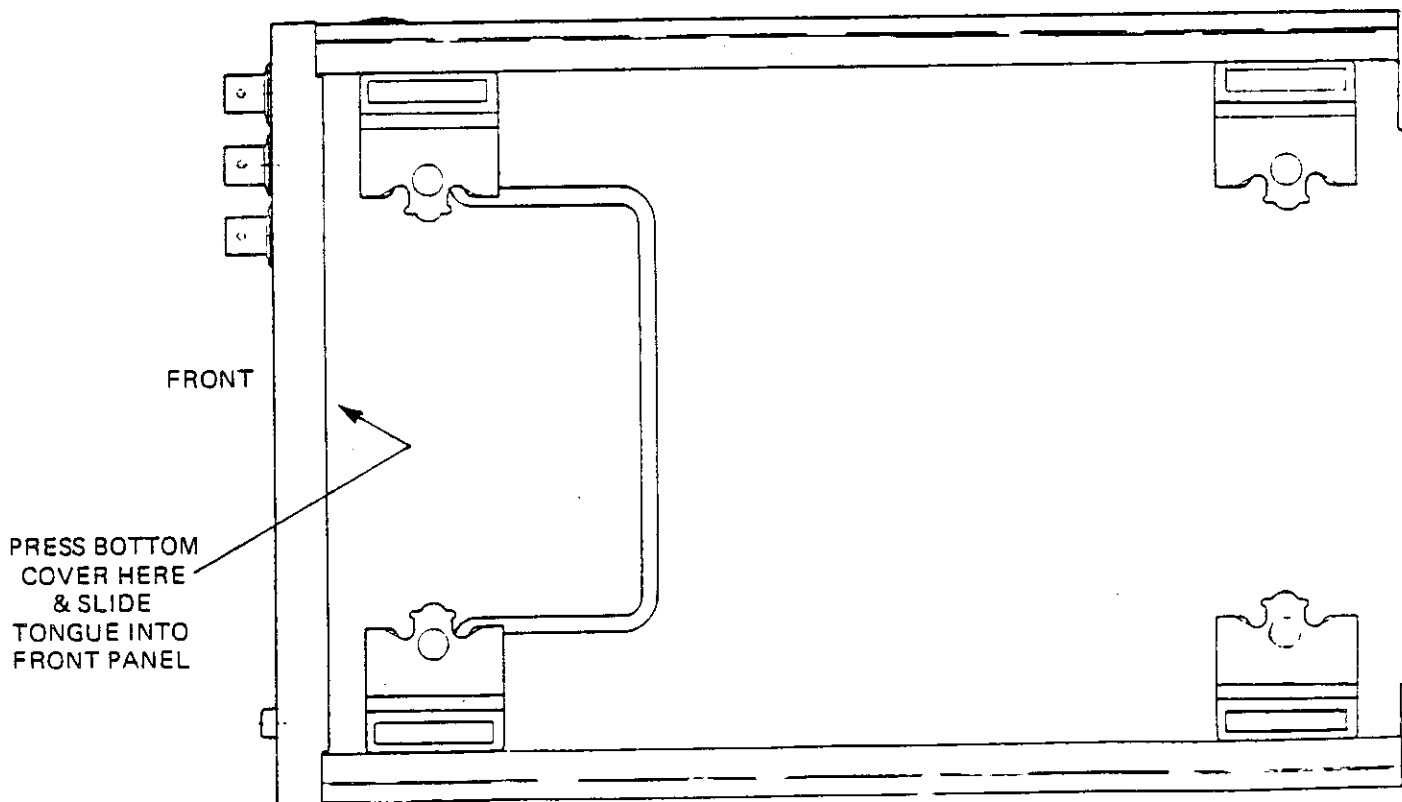
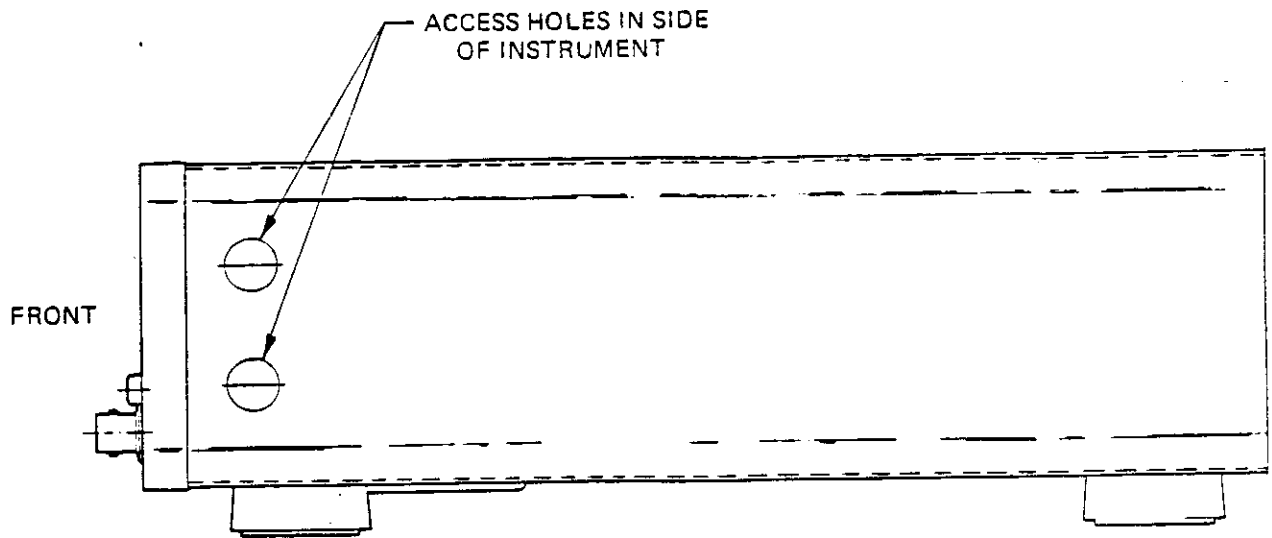
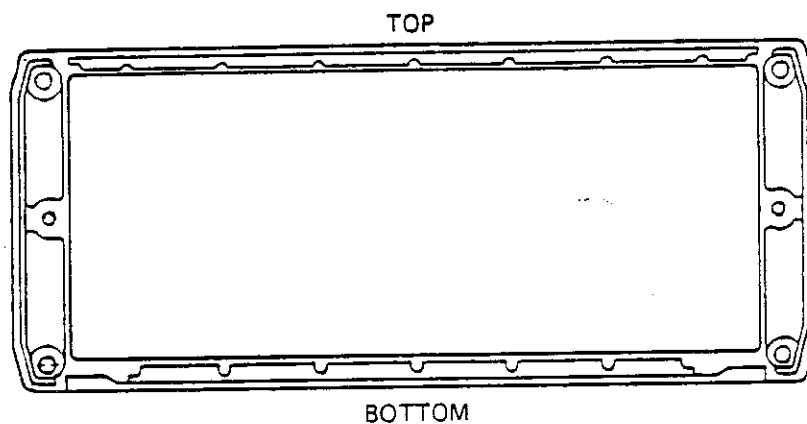

Figure 6.2 - Bottom Cover Replacement
Figure 6.3 - Proper Access Hole Orientation
Figure 6.4 - Rear Panel Bezel Orientation
6.4.2.2 To replace the covers, reverse the above procedure. When replacing the bottom cover, ensure that the tilt bail is facing toward the front of the instrument and that the tongue of the cover fits into the slot on the front panel as shown in Figure 6.2. When replacing the top cover, ensure that the access holes are towards the front of the instrument (see Figure 6.3) and that the tongue of the cover fits under the edge of the front panel at all points. Refer to Figure 6.4 for orientation of the bezel to the rear panel.